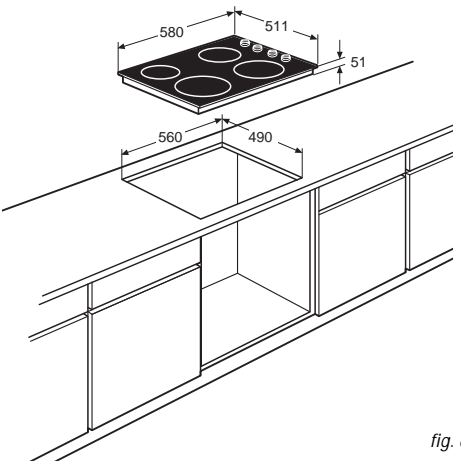

fig. 6
- Mark out the cut out (560 x 490 mm) on the worktop (see fig. 6).